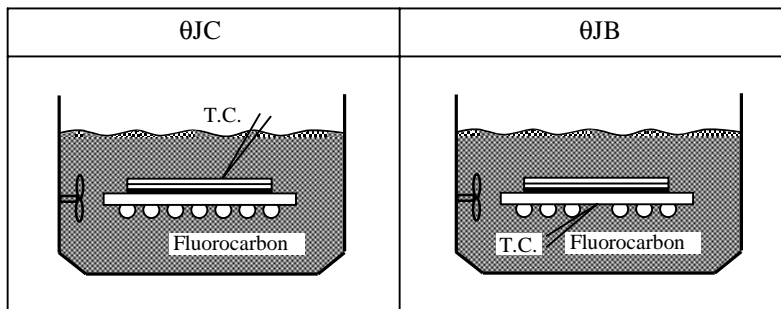

Figure 1. Definition of measurement
5.  $\theta_{JC}$  is measured at the center of mold surface in fluorocarbon. (See Figure 1.)
6.  $\theta_{JB}$  is measured on the center ball pad after removing the ball in fluorocarbon. (See Figure 1.)